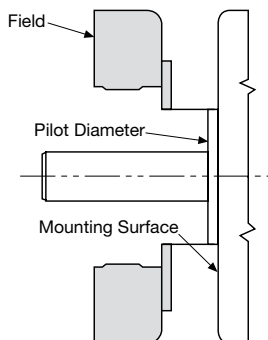

Figure 1
1. A pilot diameter on the mounting surface is essential to hold the magnet within the required tolerances. (Figure 1) Also see "Customer Shall Maintain" on page 32.